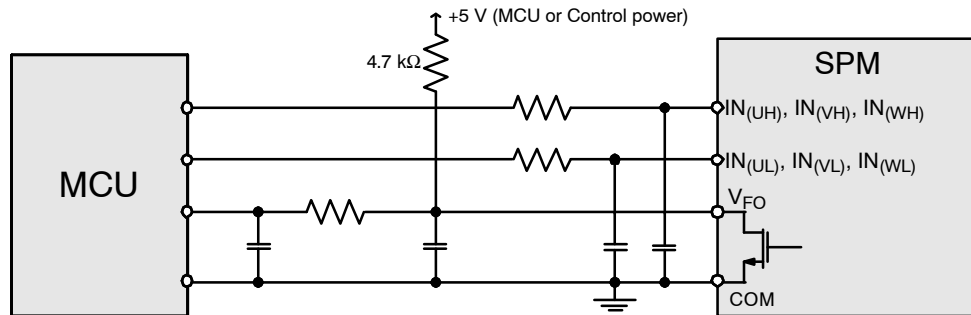

Figure 13. Recommended CPU I/O Interface Circuit
15. V_{FO} output is open-drain type. This signal line should be pulled up to the positive side of the MCU or control power supply with a resistor that makes I_{FO} up to 2 mA. Please refer to Figure 13.